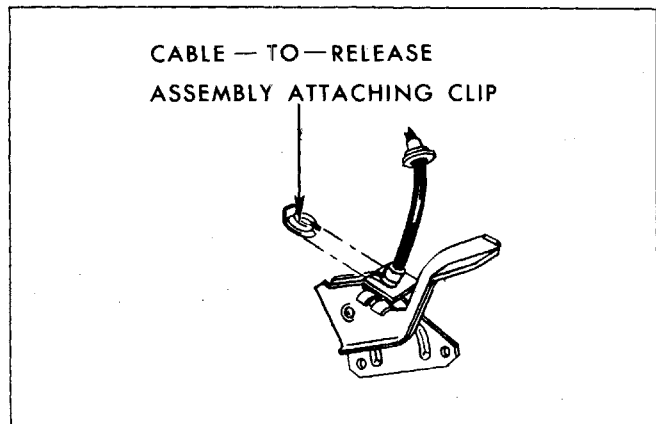

Fig. 4-30-Hood Latch Cable-to-Release Handle Attachment - H-15 and 77 Styles
4. To detach cable from release assembly, remove clip securing cable to release handle (Fig. 4-30).